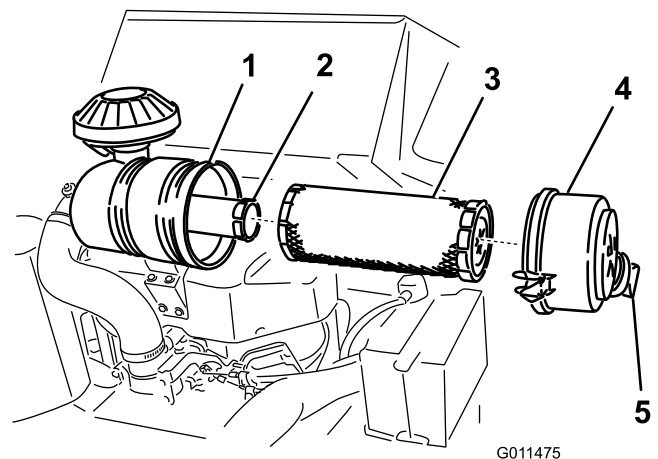

Figure 34
3. Release the latches on the air cleaner and pull the air cleaner cover off of the air cleaner body (Figure 34).
1. Gently slide the primary filter out of the air cleaner body (Figure 34). Avoid knocking the filter into the side of the body.
- If you are replacing the safety filter, carefully slide the new filter into the filter body (Figure 34).
- Carefully slide the primary filter over the safety filter (Figure 34). Ensure that it is fully seated by pushing on the outer rim of the filter while installing it.
- Install the air cleaner cover with the dust cap oriented as shown in Figure 34 and secure the latches.